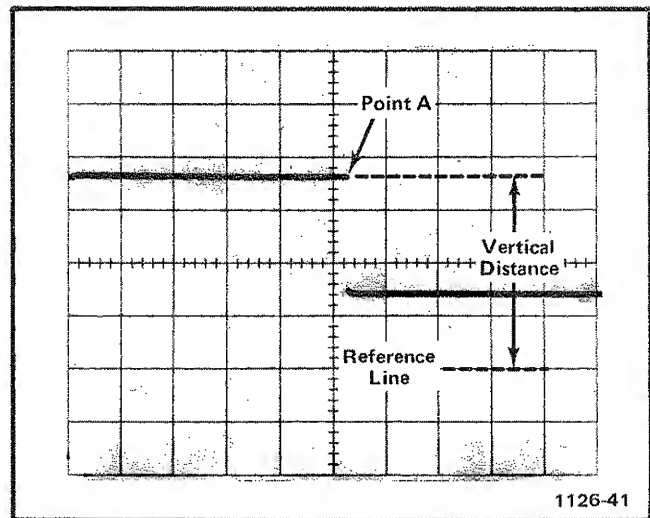

Fig. 2-3. Measuring instantaneous voltage with respect to some reference.
7. Measure the distance in divisions between the reference line and the point on the waveform at which the dc level is to be measured. For example, in Fig. 2-3 the measurement is between the reference line and point A.
EXAMPLE: Assume the vertical distance measured is 3.6 divisions (see Fig. 2-3) and the waveform is above the reference line using a 10X probe with a VOLTS/DIV setting of 0.5 V.